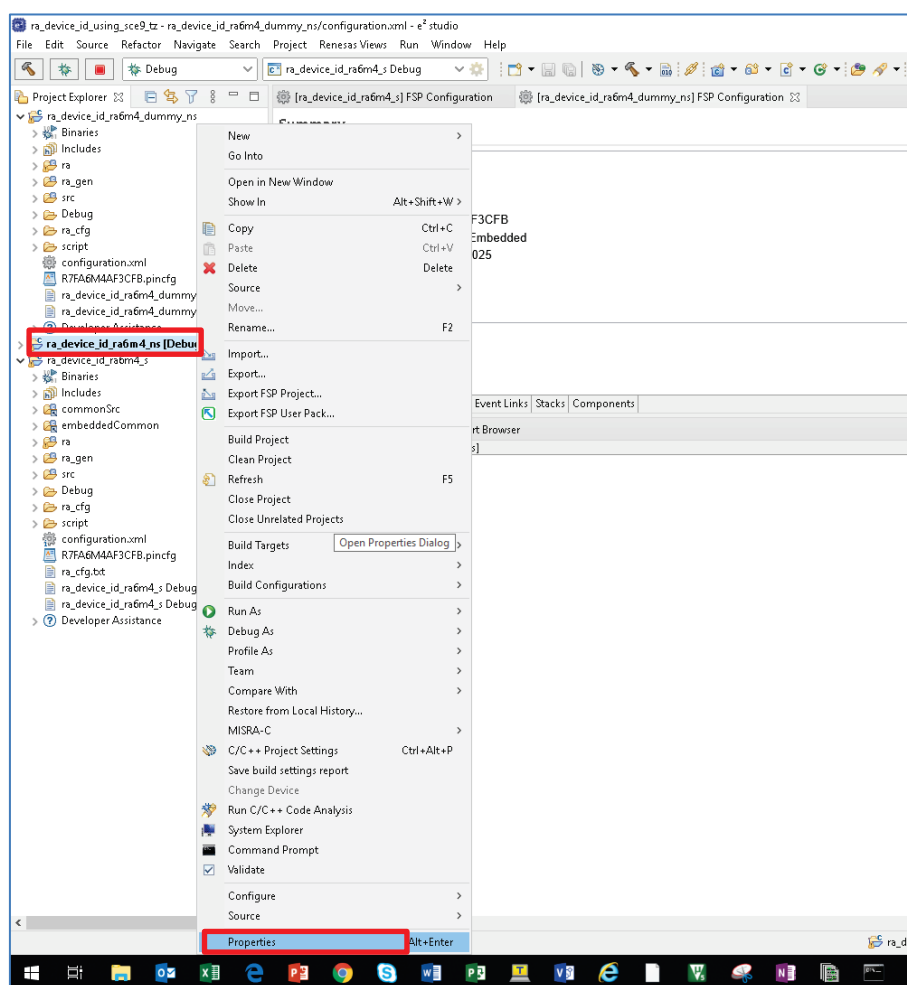

Figure 11. Open the Properties Menu
- A. Update the matching secure bundle based on current project folder location. The secure bundle is linked as an absolute path. Right click on `ra_device_id_ra6m4_ns` project and select **Properties** as shown in Figure 11.